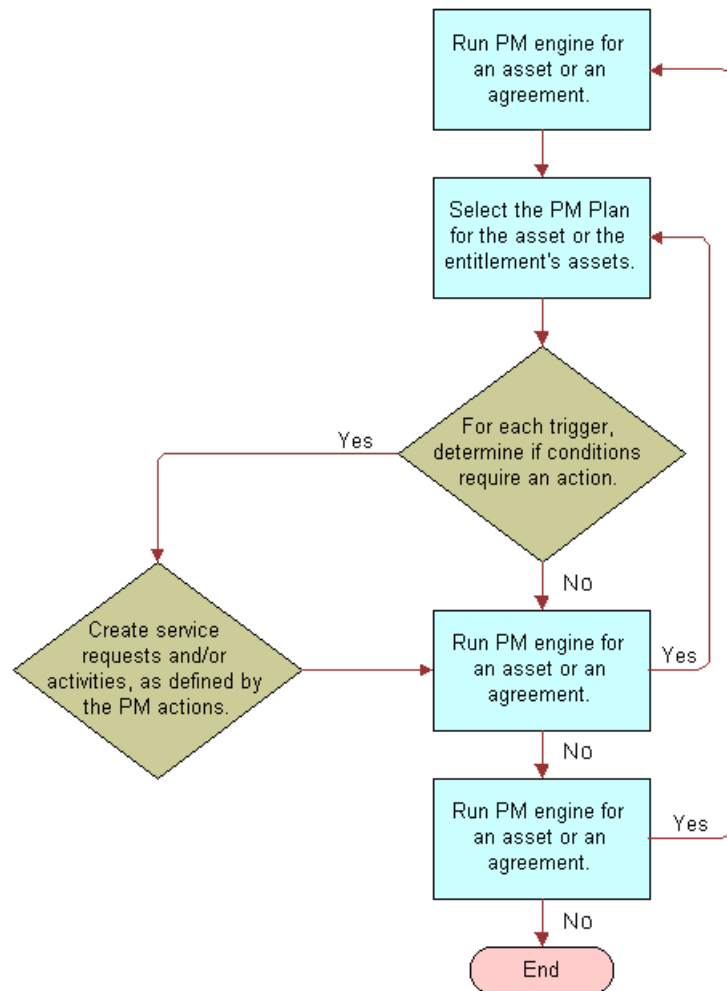

Figure 38. Logic of the Preventive Maintenance Engine
The Preventive Maintenance Engine can automatically generate preventive maintenance (PM) service requests and actions (or activities), triggered by elapsed time, asset usage, measurement thresholds, or events (see Figure 38 on page 502):
When a PM activity is required, you use Field Service to create service requests and detailed activities. Figure 38 on page 502 shows the process of the Preventive Maintenance Engine, which is: